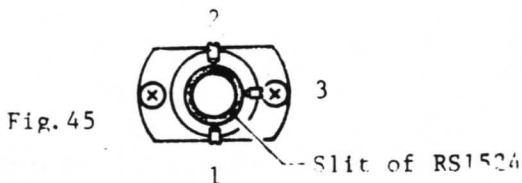

Fig. 45
1. Slit of Pipe (RS1524) is positioned to the direction as shown in Fig.45.
2. Adjust the mesh for Pinion shaft and Rack plate by fixing screws ① and ②.
3. Adjust the longitudinal play and torque of Pinion shaft by fixing screw ③.